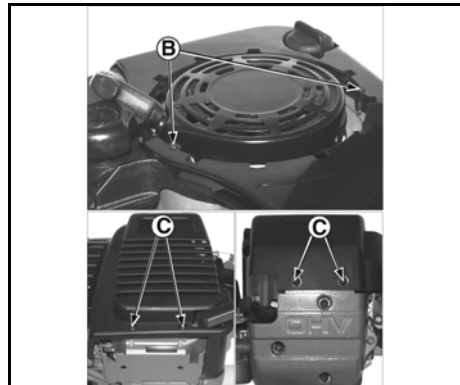

Figure 6
- Remove screws (B, Figure 6) from trim plate or (C) from rewind guard. Remove trim plate or guard.